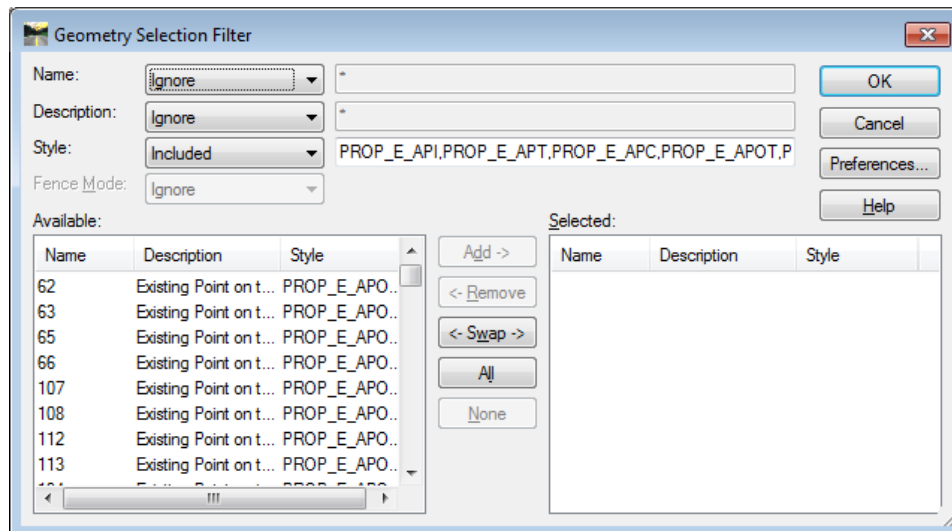

Figure L11-13 Geometry Selection Filter
- Verify to ensure that your input matches the screen capture depicted in *Figure L11-13*.